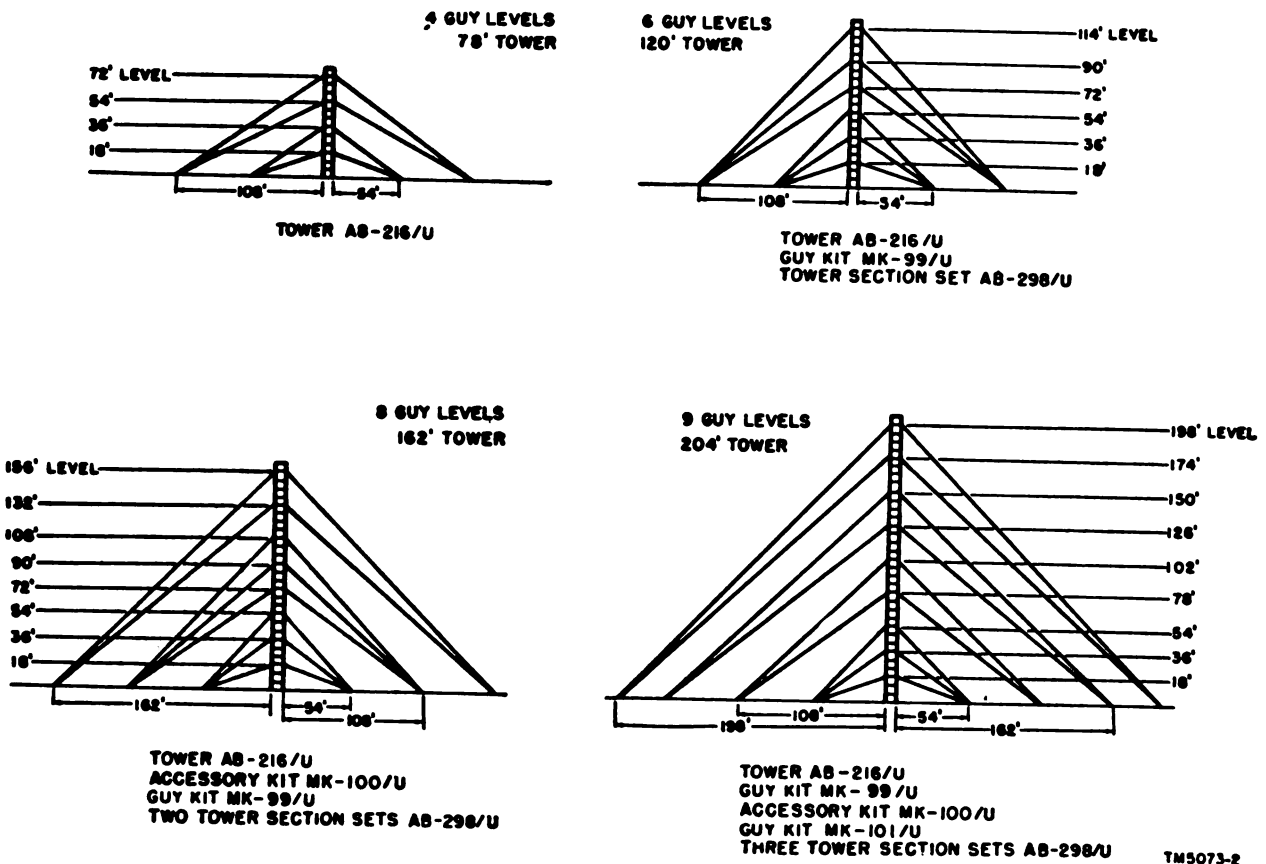
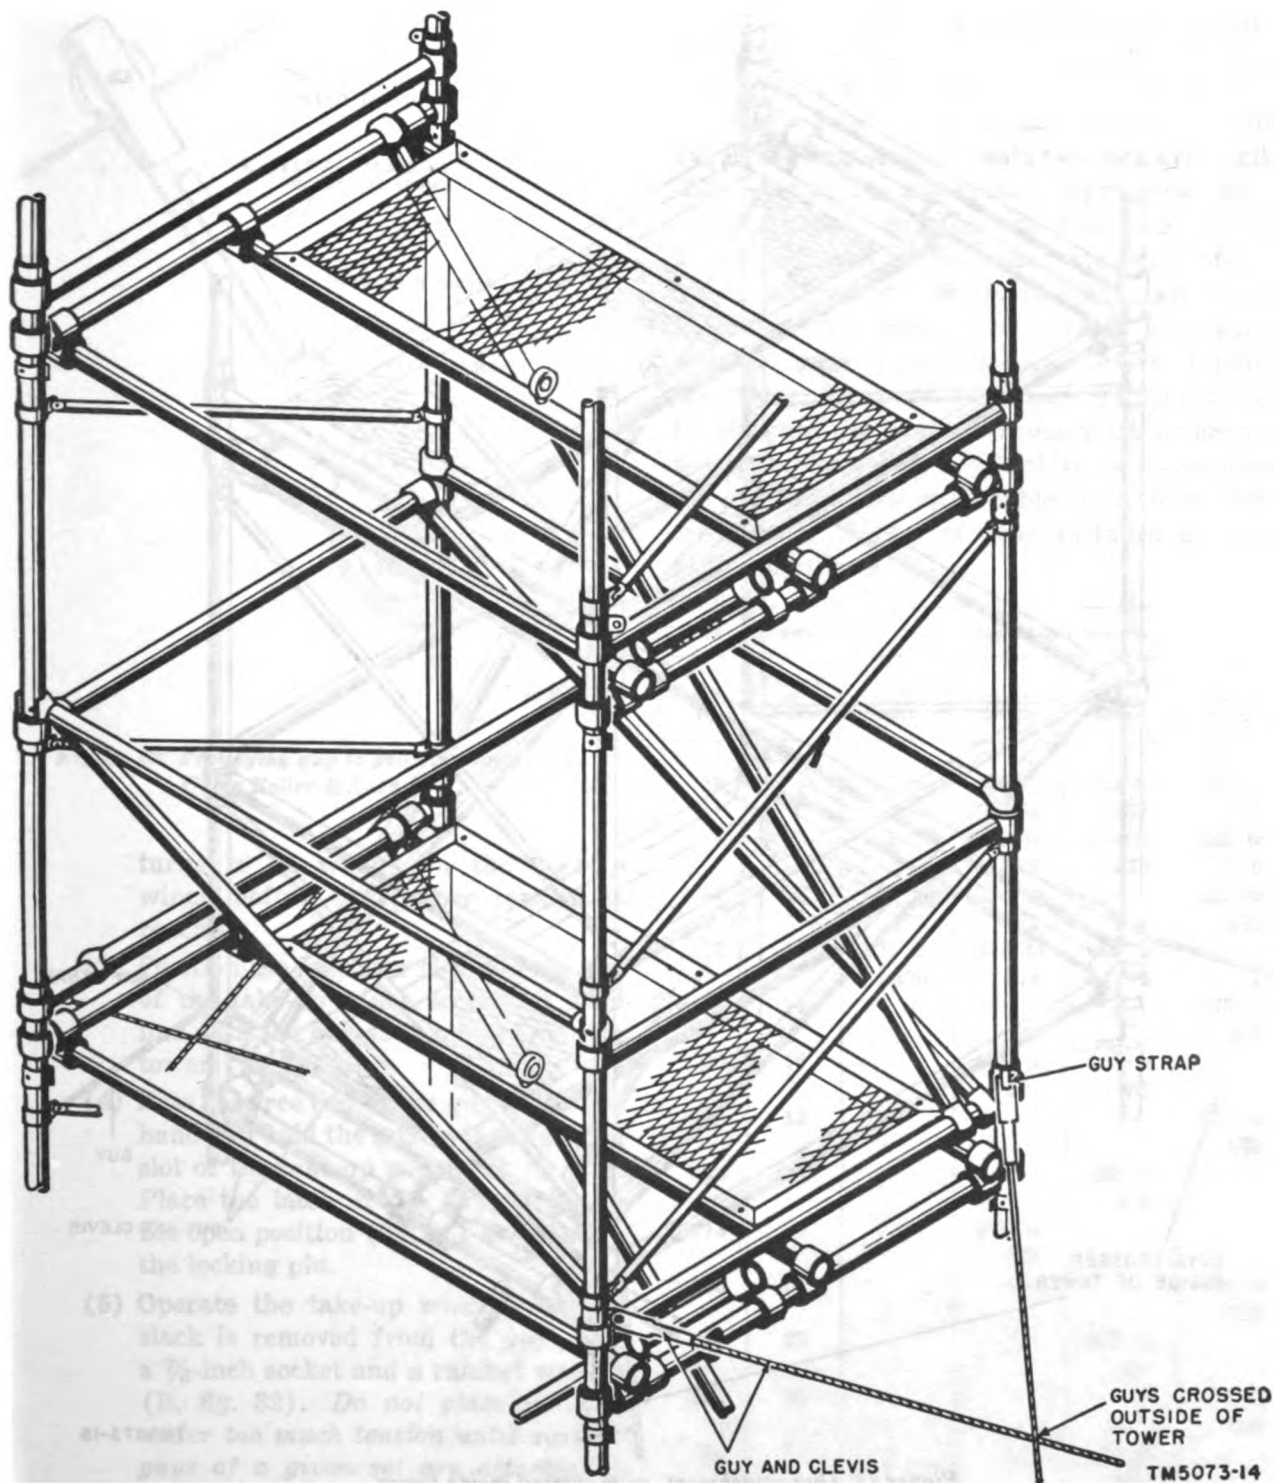
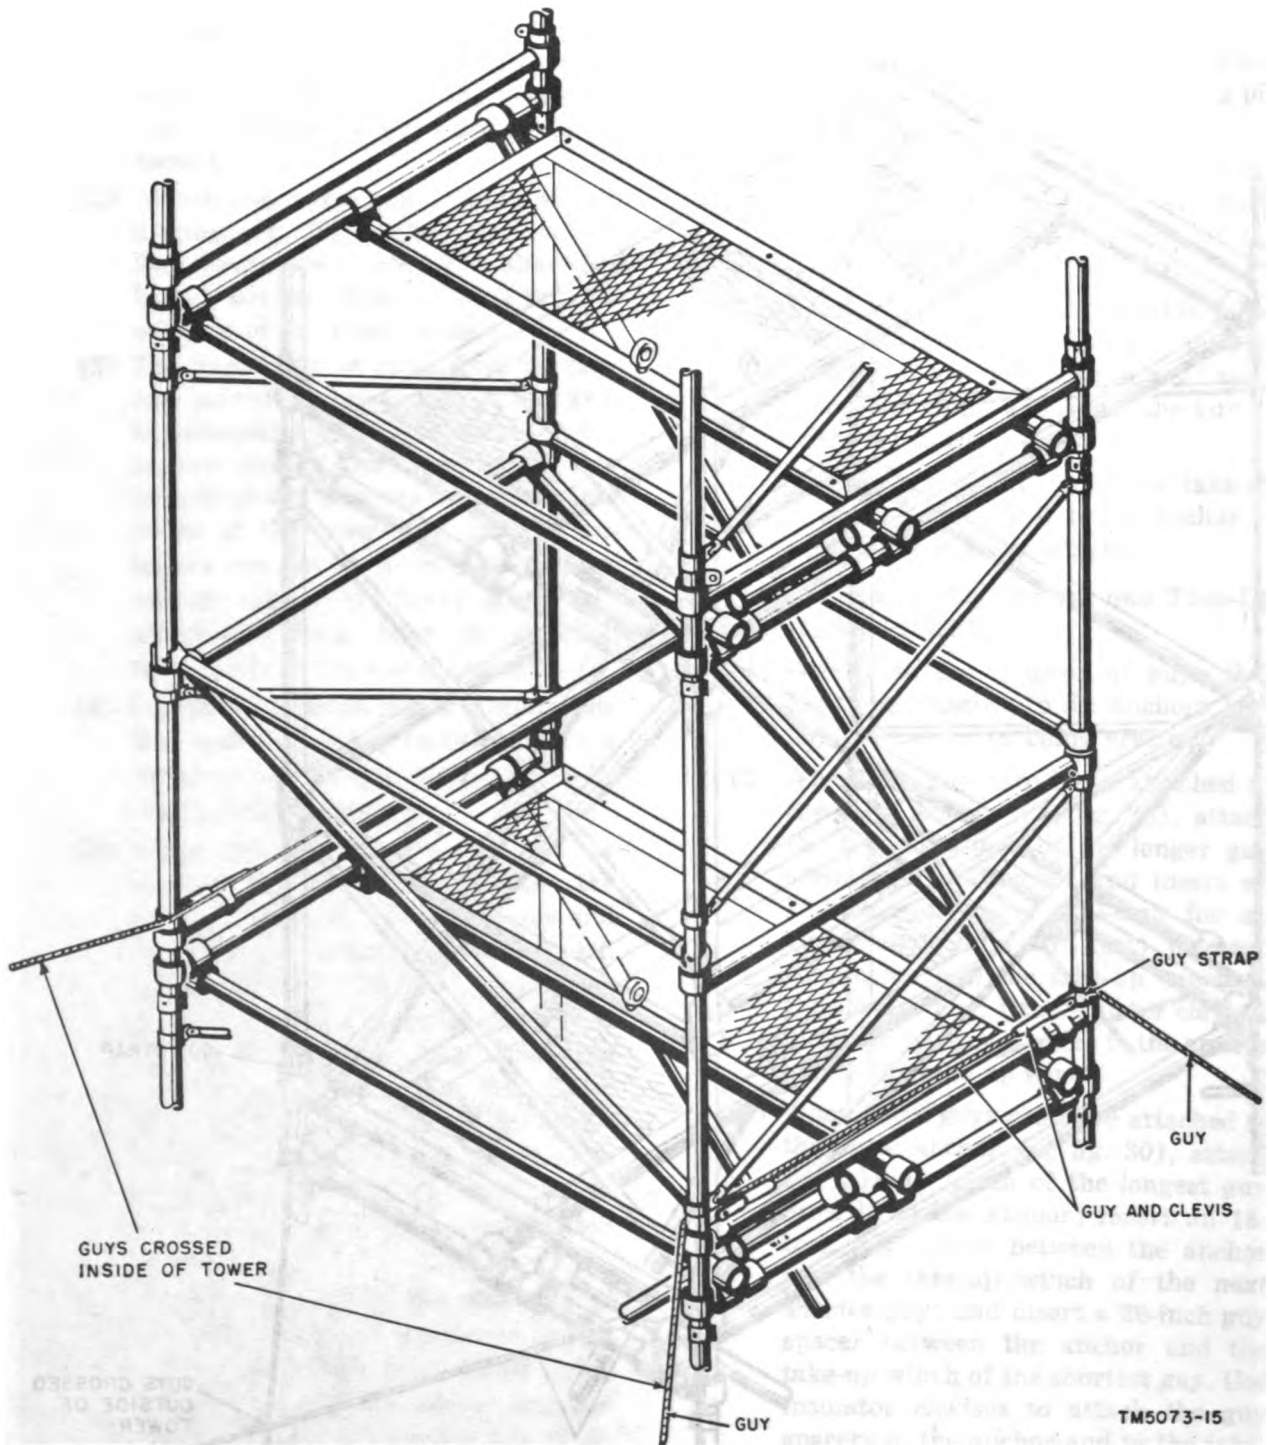

Figure 26. Guy attachment levels, anchor locations, and required equipment.
Figure 27. Guy attachment, guys crossed outside tower.
Figure 28. Guy attachment, guys crossed inside tower.
30. Installation of Guy MX-1201/U (Fig. 26)
- (1) Use the davit to raise the four coiled guys to the platform of the tower section to which the guys are to be attached.
- (2) Attach the clevis end of each guy to a strap (fig. 27) on the tower section. Guy straps are located just above the lowest welded fitting of each vertical member of the tower section.
- (3) The guys must be crossed on the narrow side of the tower (fig. 27 and 28). If antennas are to be mounted on the narrow side of the tower at the guy attachment level, cross the guys on the inside of the tower (fig. 28). If antennas are not to be mounted on the narrow side of the tower at the guy attachment level, cross the guys on the outside of the tower (fig. 27).
- (4) Unwind the coiled guy and allow the free end of the guy to descend from the tower on the side where it is to be attached to the anchor.
- (5) When the end of the guy can be reached by the personnel on the ground, grasp the end of the guy and walk it to the anchor to which it will be attached (fig. 26). If high brush or other ground obstructions make it difficult to walk each guy from the base of the tower out to its anchor location, Aerial Cable Roller MX-1216/U (fig. 29) may be attached to a previously installed guy and used to trolley the guy to its anchor location as follows:
- (1) Determine the number of guys that are to be attached to the anchors (fig. 26) for the tower being erected.
(1) Carry the free end of the guy to the anchor to which it is to be attached (fig. 26).